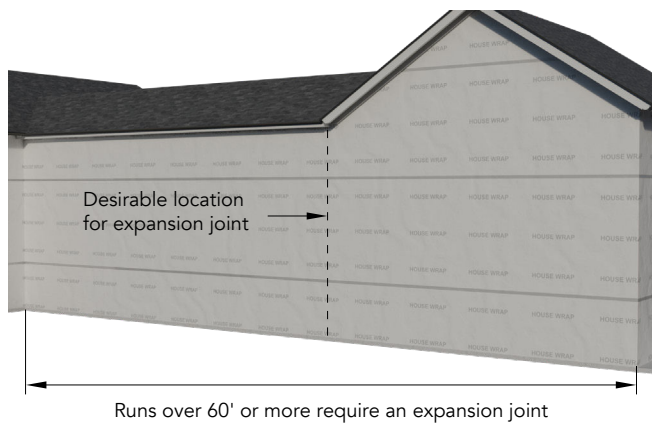

Figure 1a
- To achieve a uniform inside corner, install a 1"x1" weather-treated block along the height of the wall (Figure 1a/b).
- Locate Trim Receiver 6915 near the center of the wall, square, and fasten (Figure 1a/b).